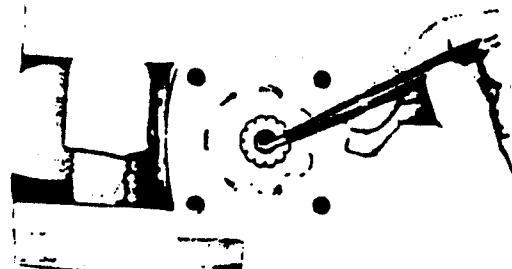
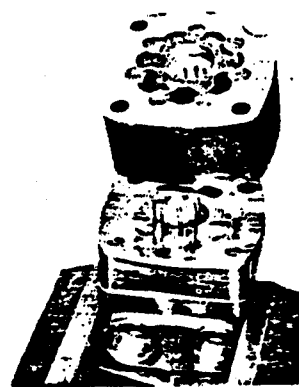

Fig. 6
Fig. 7
11. Install lightly oiled seal (14) into grooved end roller stator (15). Place this assembly over drive link with mark on drive link root in line with rotor lobe. See Fig. 6. Observe rotor face so that undercut of the rotor is up. Observe rotor face so that undercut of the rotor is up, if applicable. See Fig. 7. Note alignment of seven feed holes with manifold and wear plate. See Fig. 6. Align the four bolt holes with housing.